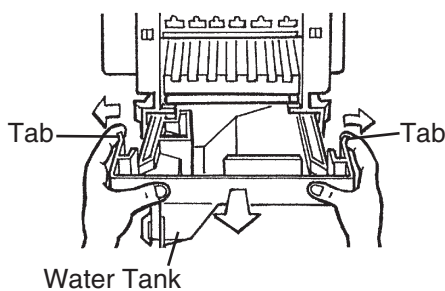

Fig. 30
- 5) Spread out the tabs to unlock the water tank, then slide it out. See Fig. 30.